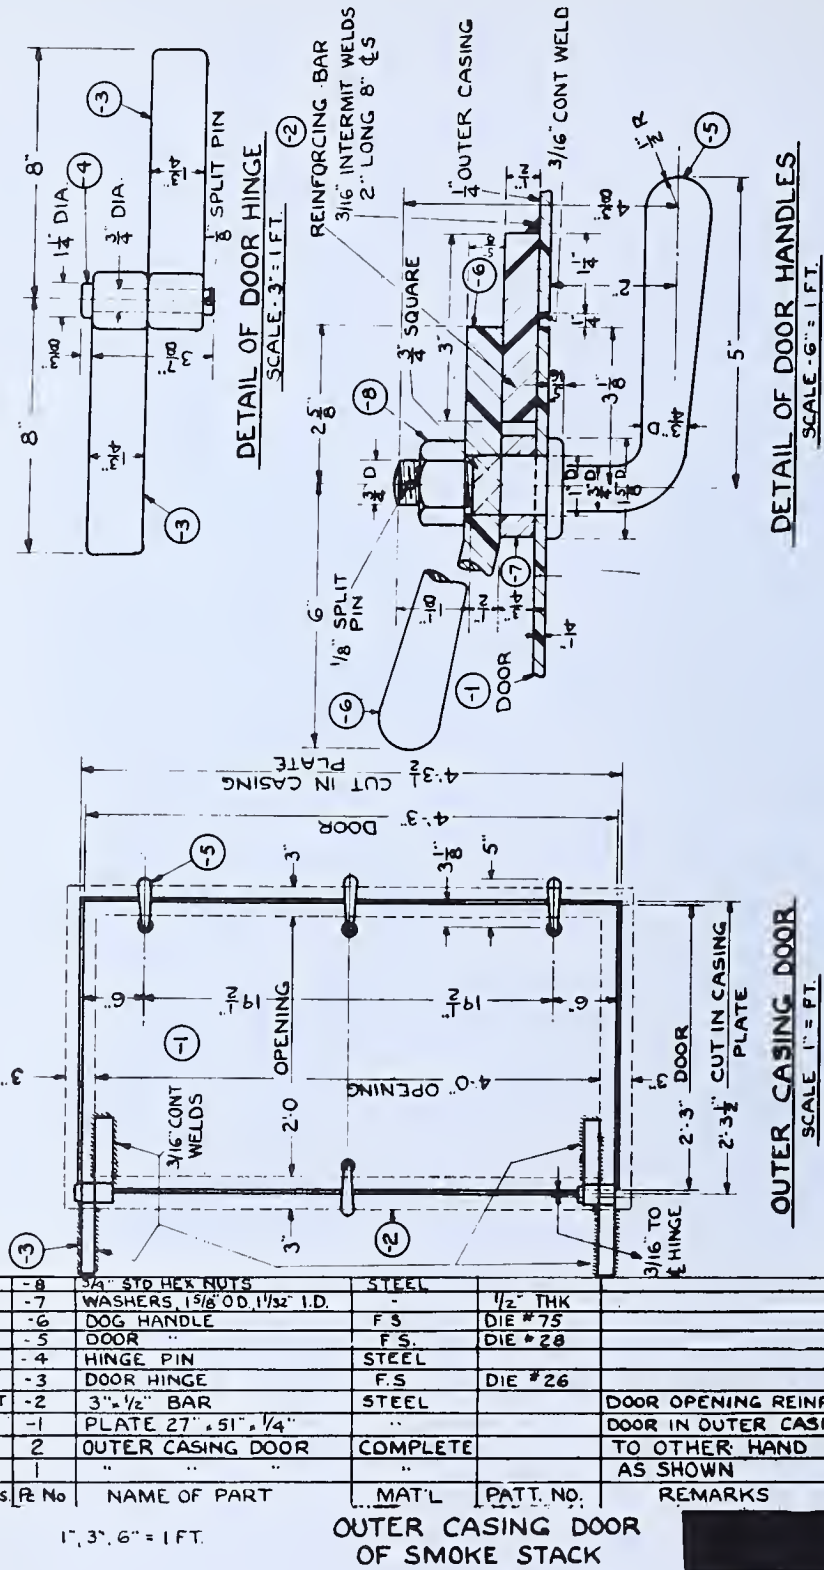

FIG. 585 — Details of Stack Door
31. Fit stack door as shown in Drawing 241-880-3 and Fig. 585.